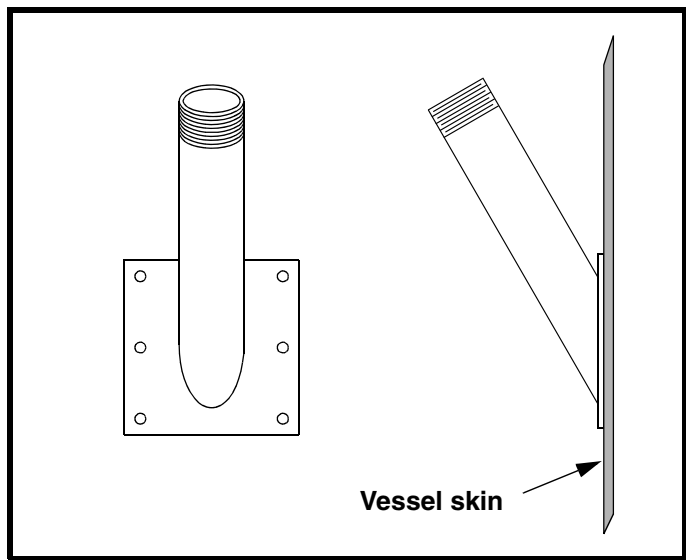

Figure 6. 30° Mounting Plate
- b. If using a 30° mounting plate (Figure 6), cut a hole in storage vessel for each mounting plate. Place mounting plate over hole and field weld to vessel skin.